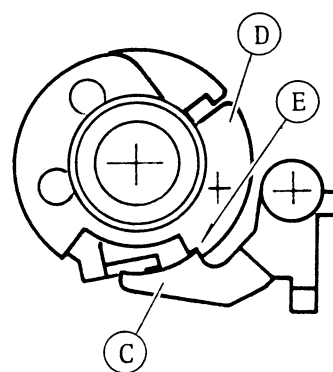

Fig. 18
- a. When the winding safety arm is engaged with the (E) notch of the crank disk, the BS103 switch should still be maintained in closed "ON". (Fig. 18, 19)